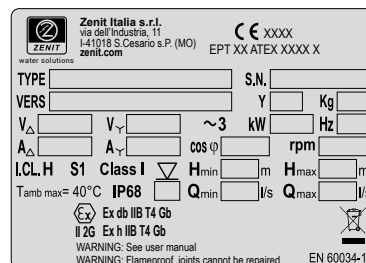

Fig. 3
**Fig. 3** - Silver sticker. Reproduces the nameplate affixed to the product. It must be stuck into the space provided in this manual and be referred to when making any requests or enquiries.